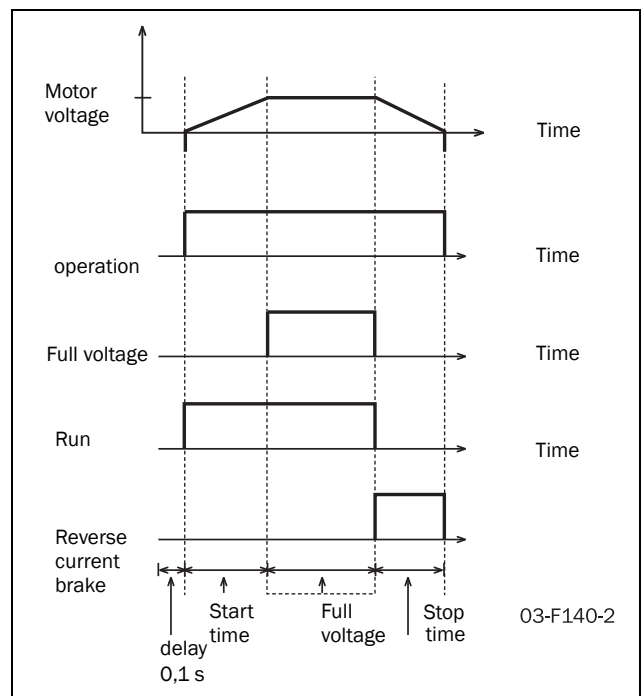

Fig. 61 The relay functions for operation, run and full voltage.
The relays can be used to control mains contactors or a bypass contactor or to indicate alarm conditions. As illustrated in Fig. 61 overleaf, the Operation setting (alternative 1) should be chosen to activate the mains contactor both during start, full voltage operation and stop. If a by-pass contactor is used, this can be controlled by a relay with the setting Full voltage (2). The settings Run (5) and Reverse current brake (4) are used when reverse current brake is chosen as stop method. In this case one relay has to be configured for Run and will control the mains contactor during the start and during full voltage operation. Another relay has to be configured for Reverse current brake and will control the contactor with reversed phase sequence during braking. For security reasons the relay configured for Reverse current brake will not be activated until after a time delay of 500 ms after deactivation of the relay configured for Run.